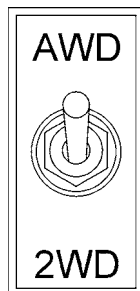

Figure 17. AWD Switch
3. Check the speed control lever (Figure 17) located on the right side of the handle bar. The speed control should work freely when squeezed by hand, and return to the closed position when released.